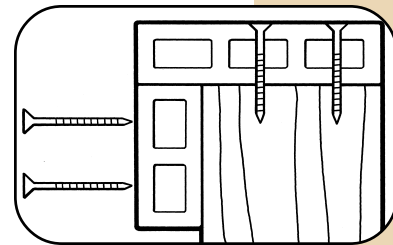

Fig. 32
- Place one Side Rail perpendicular to the Top Rail at each Rail section, making sure that the top of the Side Rail is flush with the side of the Top Rail (Fig. 32).
- Pre-drill and place two #8, 2-1/2" stainless steel or galvanized deck screws 1" from the end of each Side Rail and fasten into each 4x4 post – be sure to level and square the top Side Rail. There should be a minimum 1/16" gap between each Side Rail to allow for expansion and contraction (Fig.32).